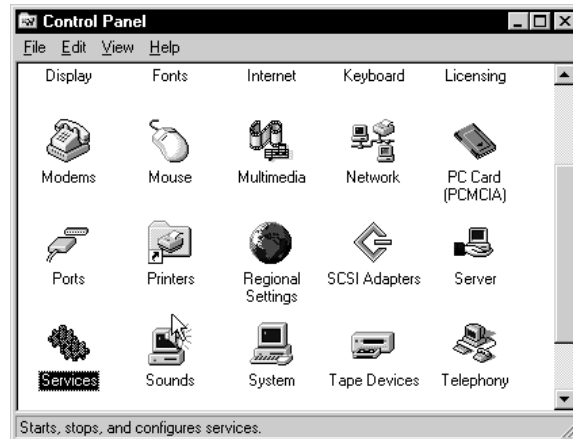

Figure 2-10. Control Panel
- 3 Double-click the **Services** icon as shown in Figure 2-10.